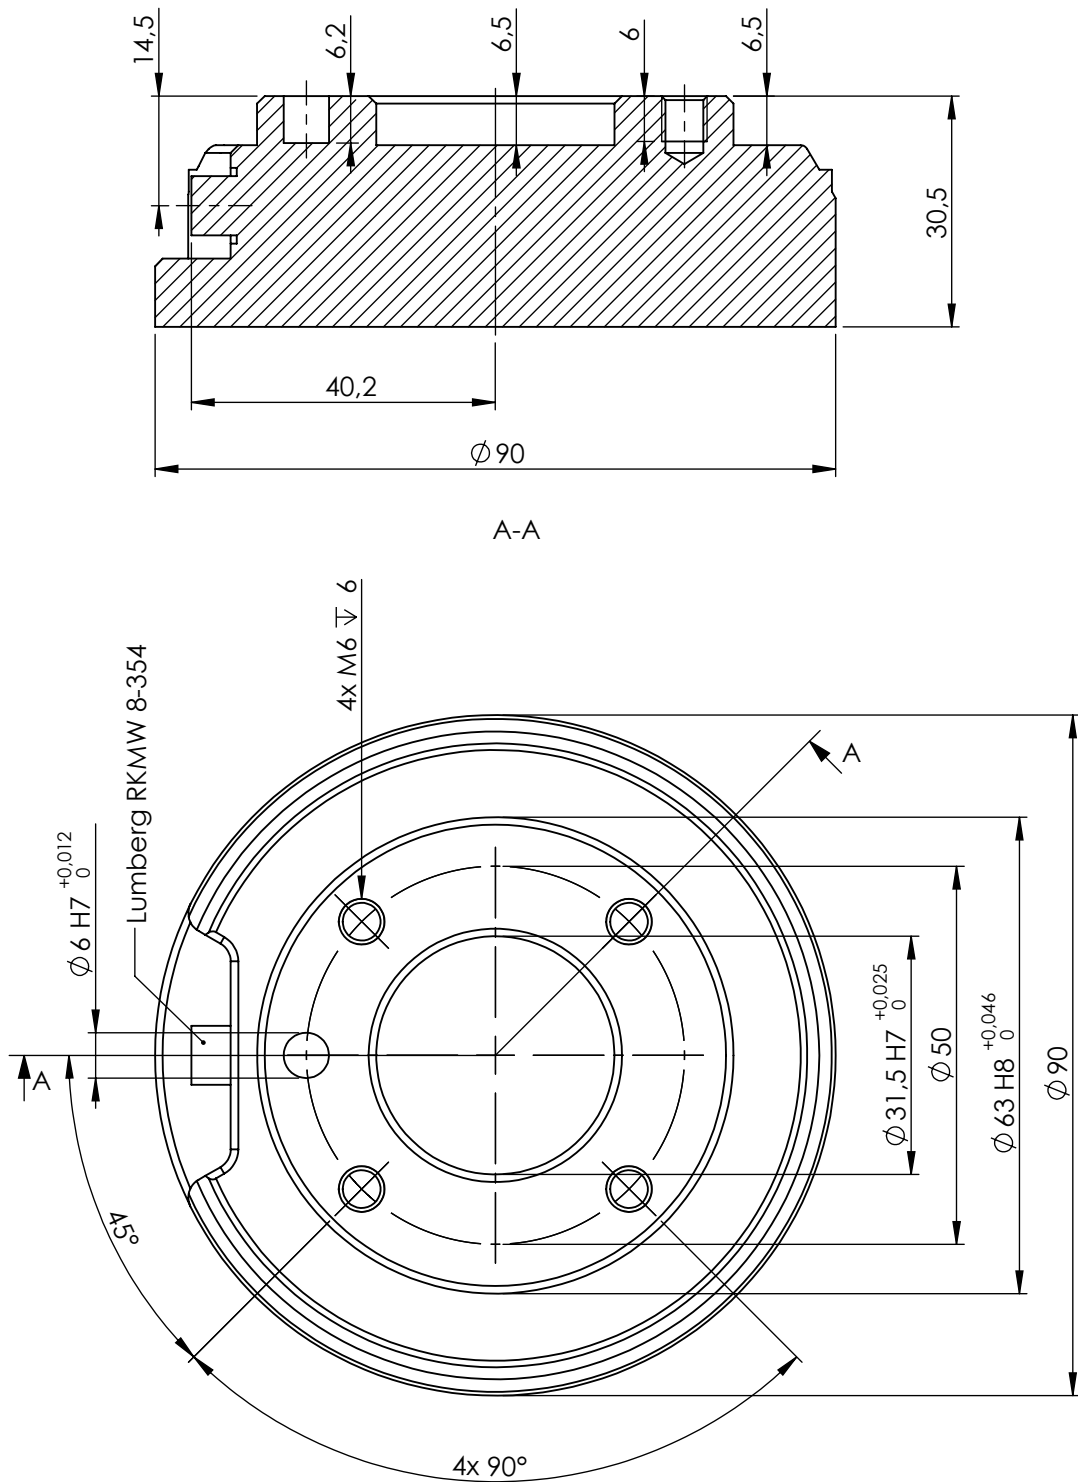

Figure 4.2: The tool output flange, ISO 9409-1-50-4-M6. This is where the tool is mounted at the tip of the robot. All measures are in mm.
**Tool** The robot tool flange has four M6 thread holes for attaching a tool to the robot. The M6 bolts need to be tightened with 9 N m. If very accurate repositioning of the tool is desired, the Ø6 hole is provided for use with a pin. Figure 4.2 shows where to drill holes and mount the screws.